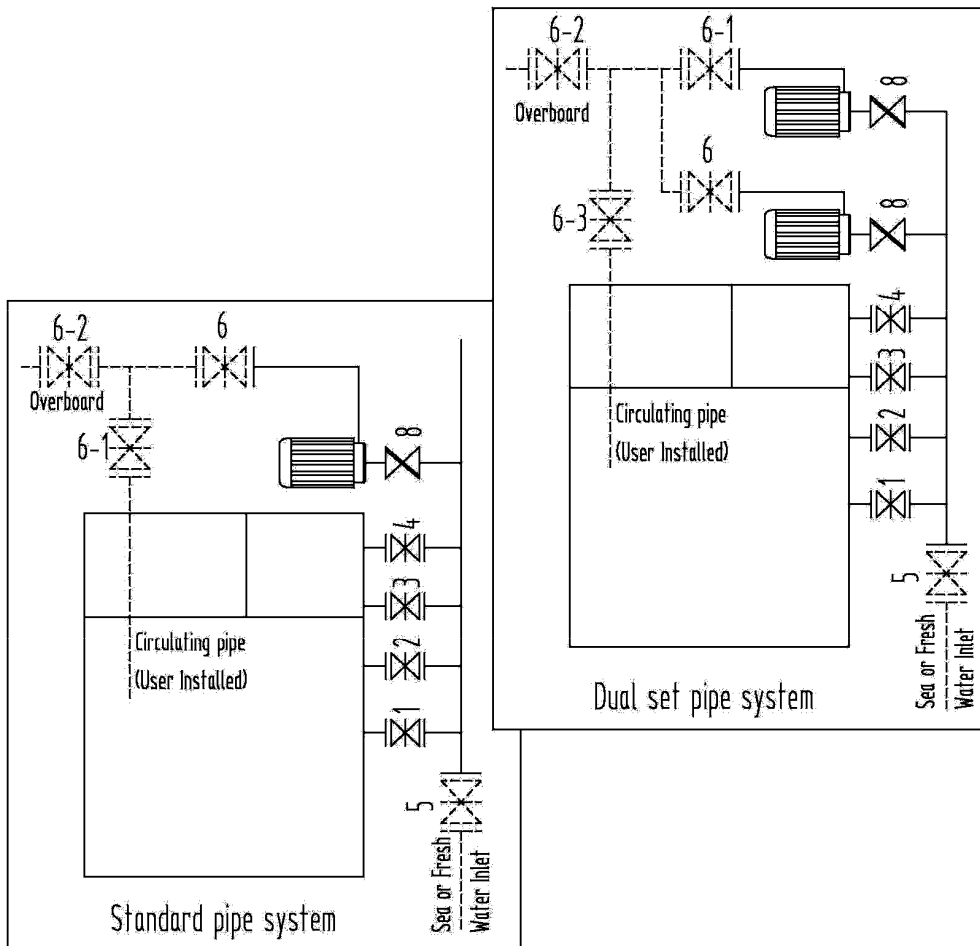

FIG.1
- g. Circulating pipe for Tank wash (View the fig. 1)*